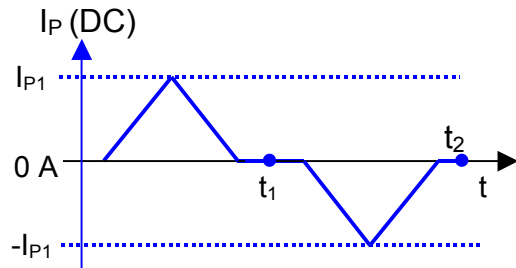

Figure 30: Current cycle used to measure magnetic and electrical offset (transducer supplied)
- or in a known magnetization state, like in the current cycle shown in figure 30.
Using the current cycle shown in figure 30, the electrical offset is: